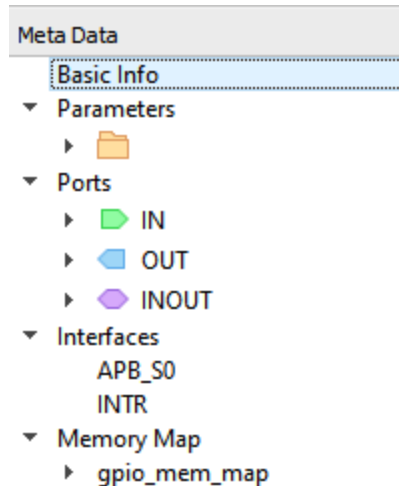

Figure 3.7. Meta Data View
- Click **Basic Info** from Meta Data view (Figure 3.7).